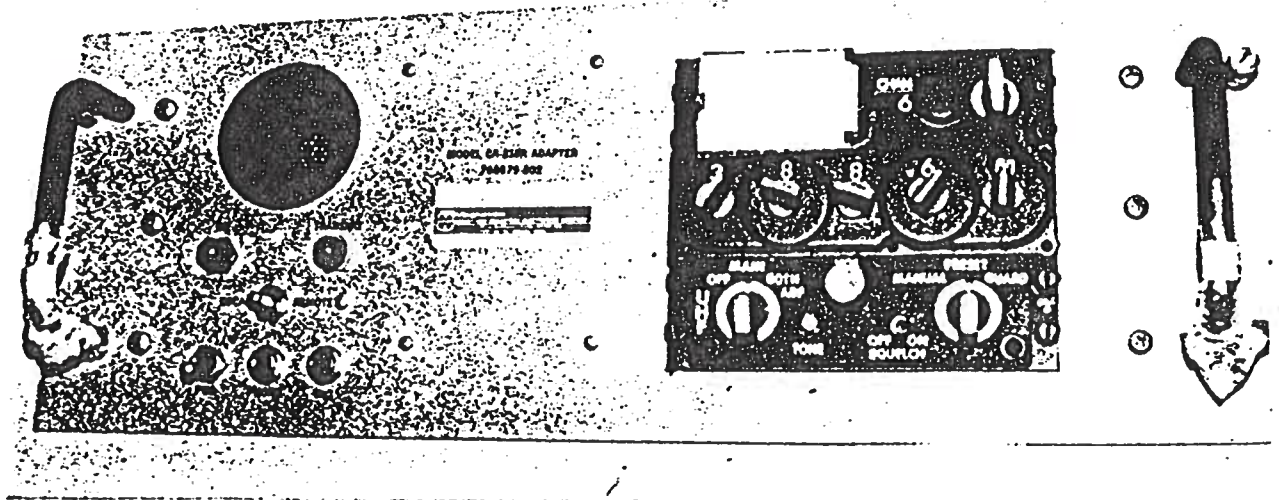

Figure 8, AN/ARC-164(V) UHF Radio System
UHF. The AN/ARC-164(V) radio set provides UHF capability. This set, including its CA-218R rack adaptor (figure 8), is located in an overhead console in front of the driver. The ARC-174 operates in the frequency range of 325 to 399.975 MHz. It provides 7,000 channels and an auxiliary Guard Receiver. Nominal output of the transmitter is 10 watts. A DHV-190 omnidirectional antenna is supplied. The ARC-164 may also be loaned to the customer who can provide 120-VAC, 60- Hz power.